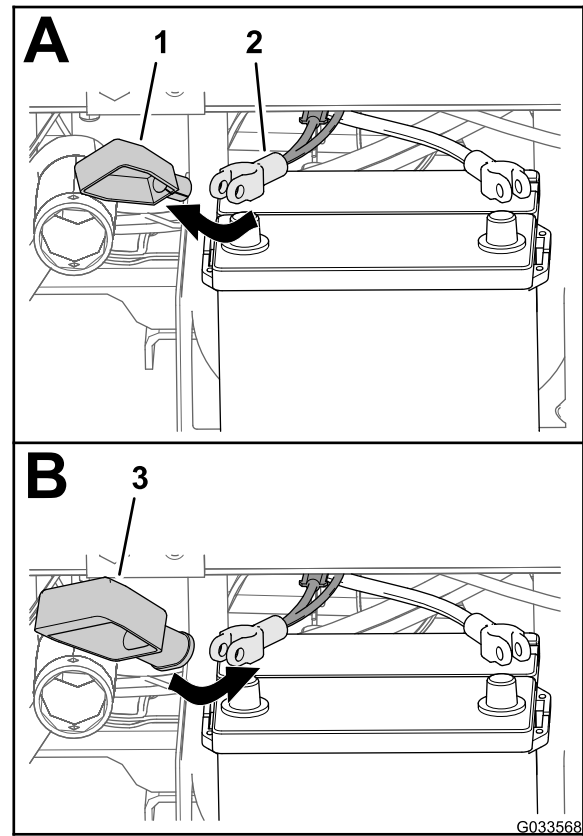

**Figure 27**
1. Remove the nuts and T-bolts at the clamps of the positive and negative battery cables (Figure 27).